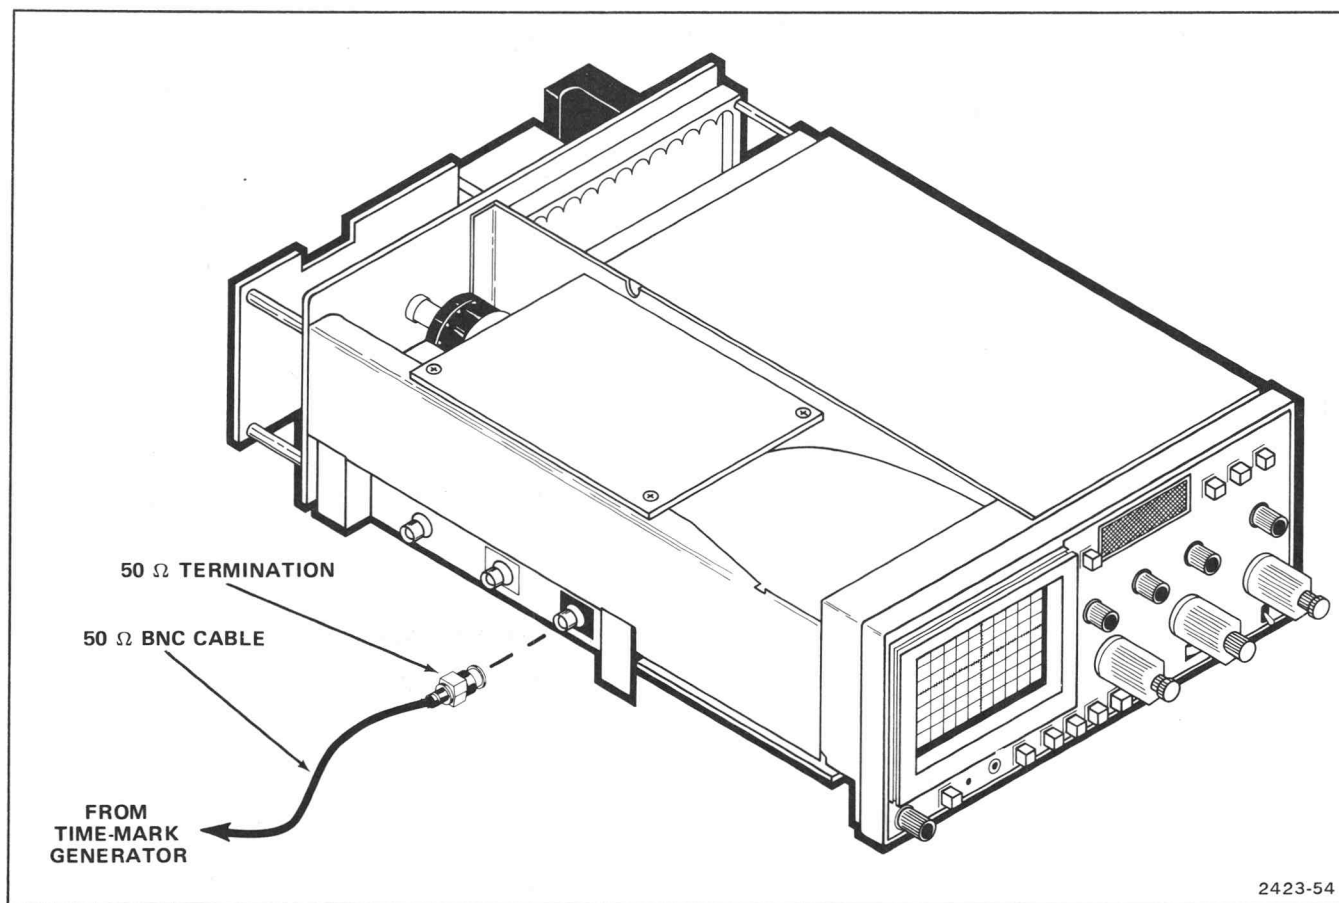

Fig. 4-5. Equipment setup for SEC/DIV accuracy.
a. Connect test equipment to CH 1 input as shown in Fig. 4-5.